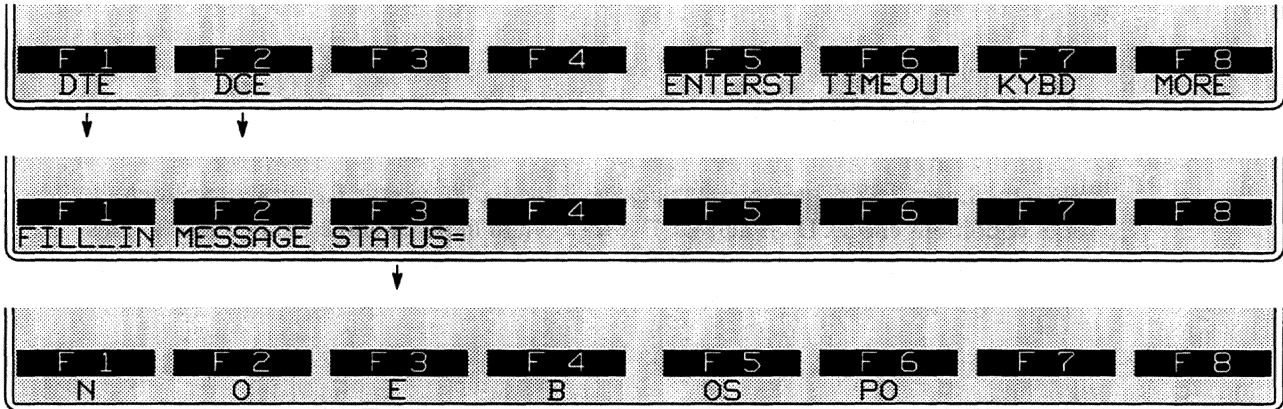

Figure 46-5 Frame types.
1. *Fill–In and Message*. The softkeys for *FILL_IN* (Fill–In Status Unit), *MESSAGE* (Message Signal Unit), and *STATUS=* (Link Status Signal Unit) are illustrated in Figure 46-5. Press a softkey to write one of these signal–unit types to the Layer 2 spreadsheet.
2. *Link Status*. *DTE* (or *DCE*) *STATUS=* is not a complete condition. Select an *LSSU* type from the third softkey rack shown in Figure 46-5. The full set of abbreviations and their meanings is given in Table 46-1.